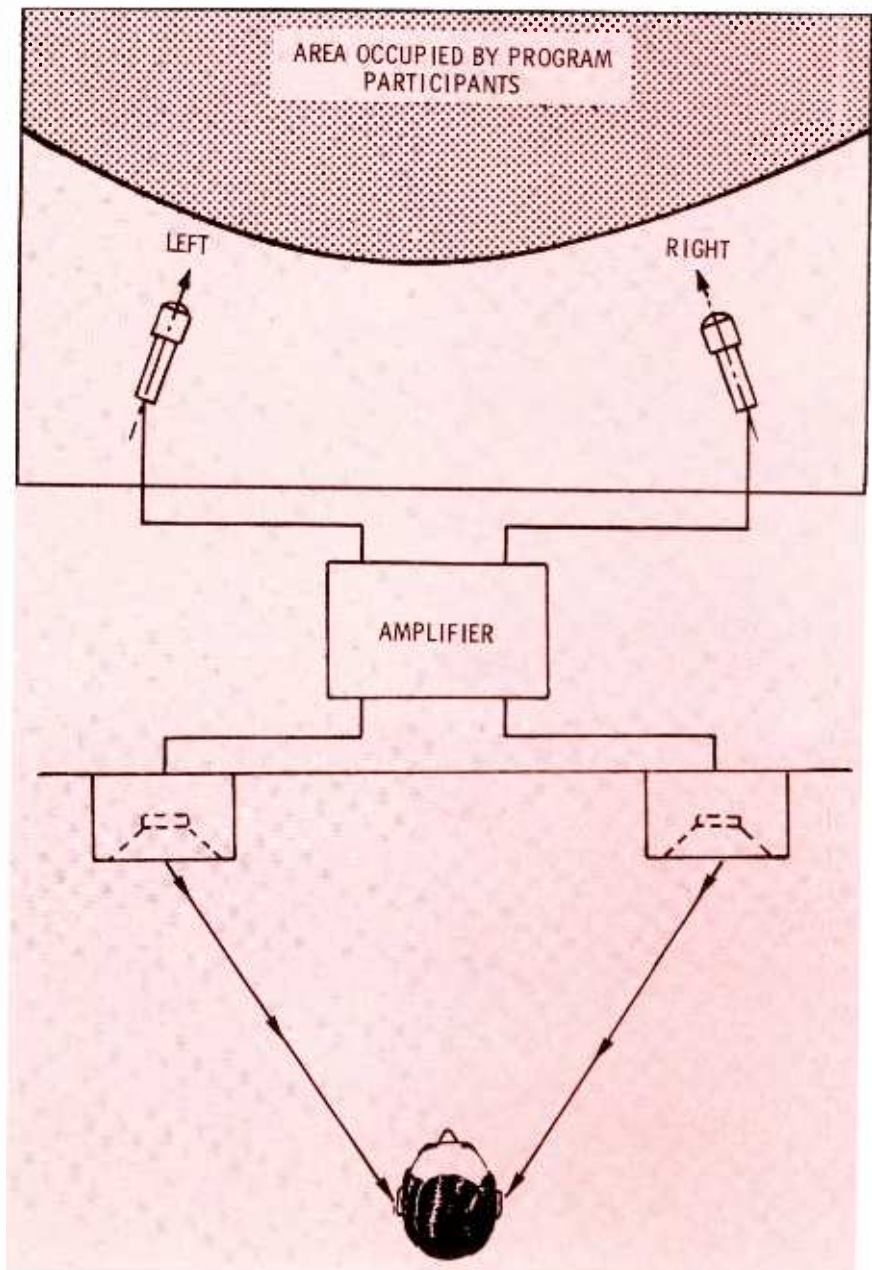

Fig. 1. One system—two signals.
Basically an FM-stereo signal consists of two audio-frequency signals that occupy the same FM channel. These separate audio signals provide stereophonic sound reproduction. The individual audio signals are identified as "Left" (L), and "Right" (R). These correspond to the outputs from a pair of microphones at a sound studio, as seen in Fig. 1. The audio signal from the L microphone is different from that of the R microphone; therefore, the stereo signal consists of two audio waveforms which vary independently in frequency and amplitude. At the receiver, the L and R signals are fed to separate speakers. The speakers are placed some distance apart to simulate the distance between transmitting microphones.